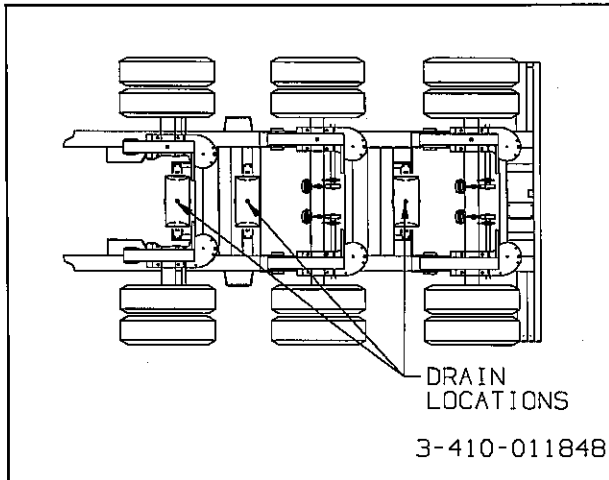

Fig. 4-1 Drain Cock Locations
- d. Drain air reservoir daily. A drain cock on the bottom of each air reservoir vents the tank to drain collected water and oil. If held open, air pressure in the tanks is relieved, causing the emergency or parking brakes to be applied (see Figure 4-1).